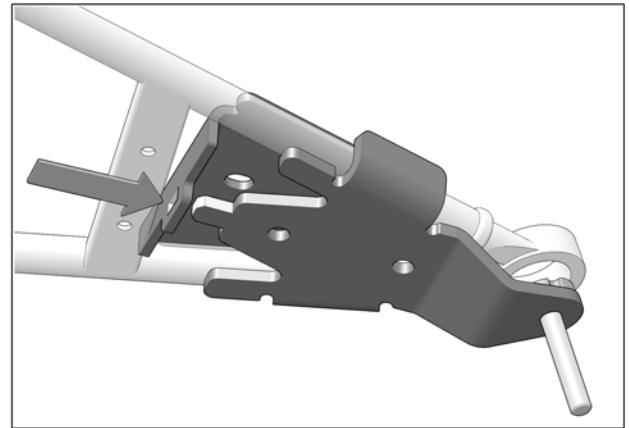

Fig. 18
6. Slip the top part's mortise over tenon extending at the back of bottom part. See Fig. 18